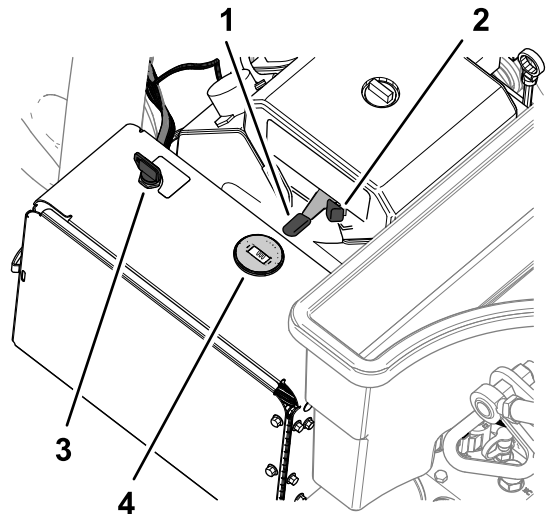

Figure 78
2. Move the throttle lever (Figure 78) to the SLOW position.